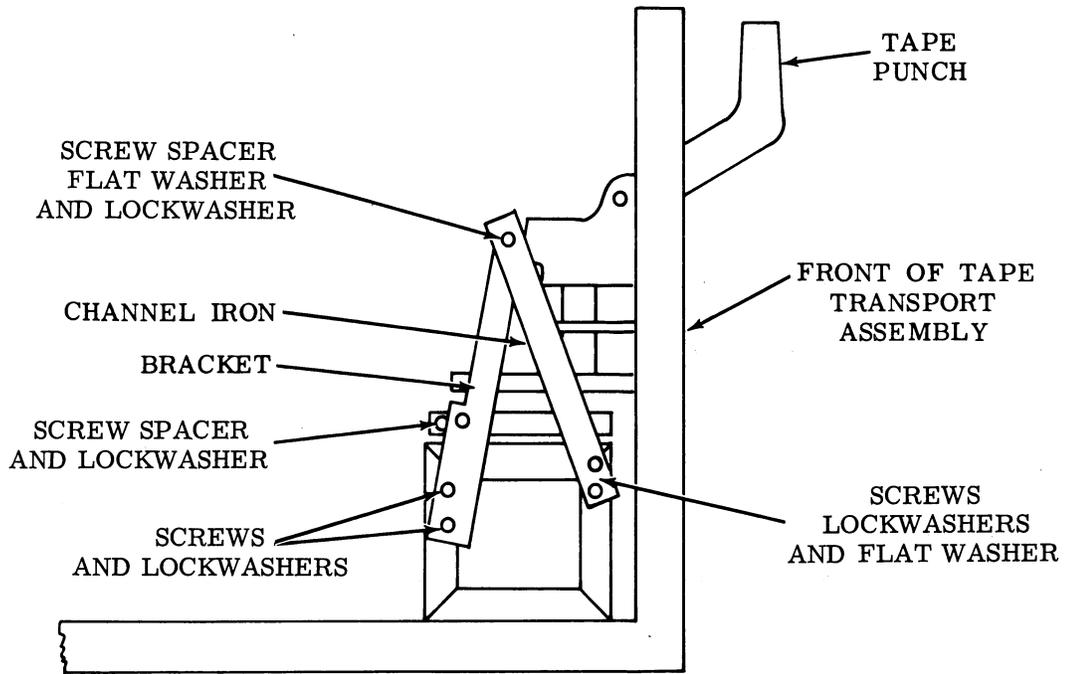

Figure 7 - Tape Transport Assembly Shipping Hardware
2.16 Remove channel iron, bracket, and retaining hardware from the left side of the punch unit (Figure 7).